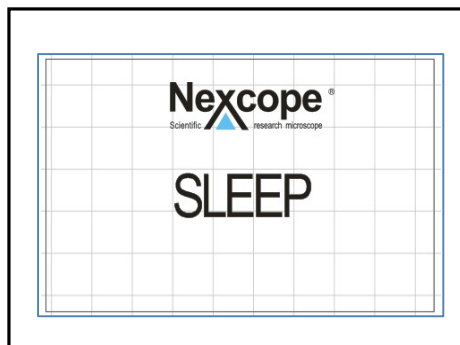

Fig.13
1. **Click Knob** : enter the standby state and “SLEEP” appears on the screen,as shown in figure 13. Click again to eliminate the state, the “SLEEP” on the screen disappears and the normal working state is displayed;